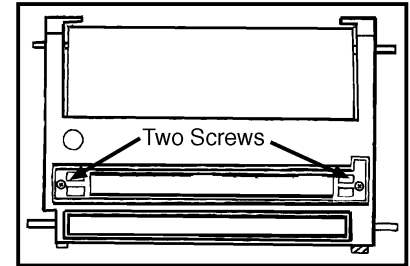

Figure 1
1. Remove two screws on corona assembly. The corona grid unit has spring tension and and be removed by first pushing it to the left and then lifting off (Fig. 1).